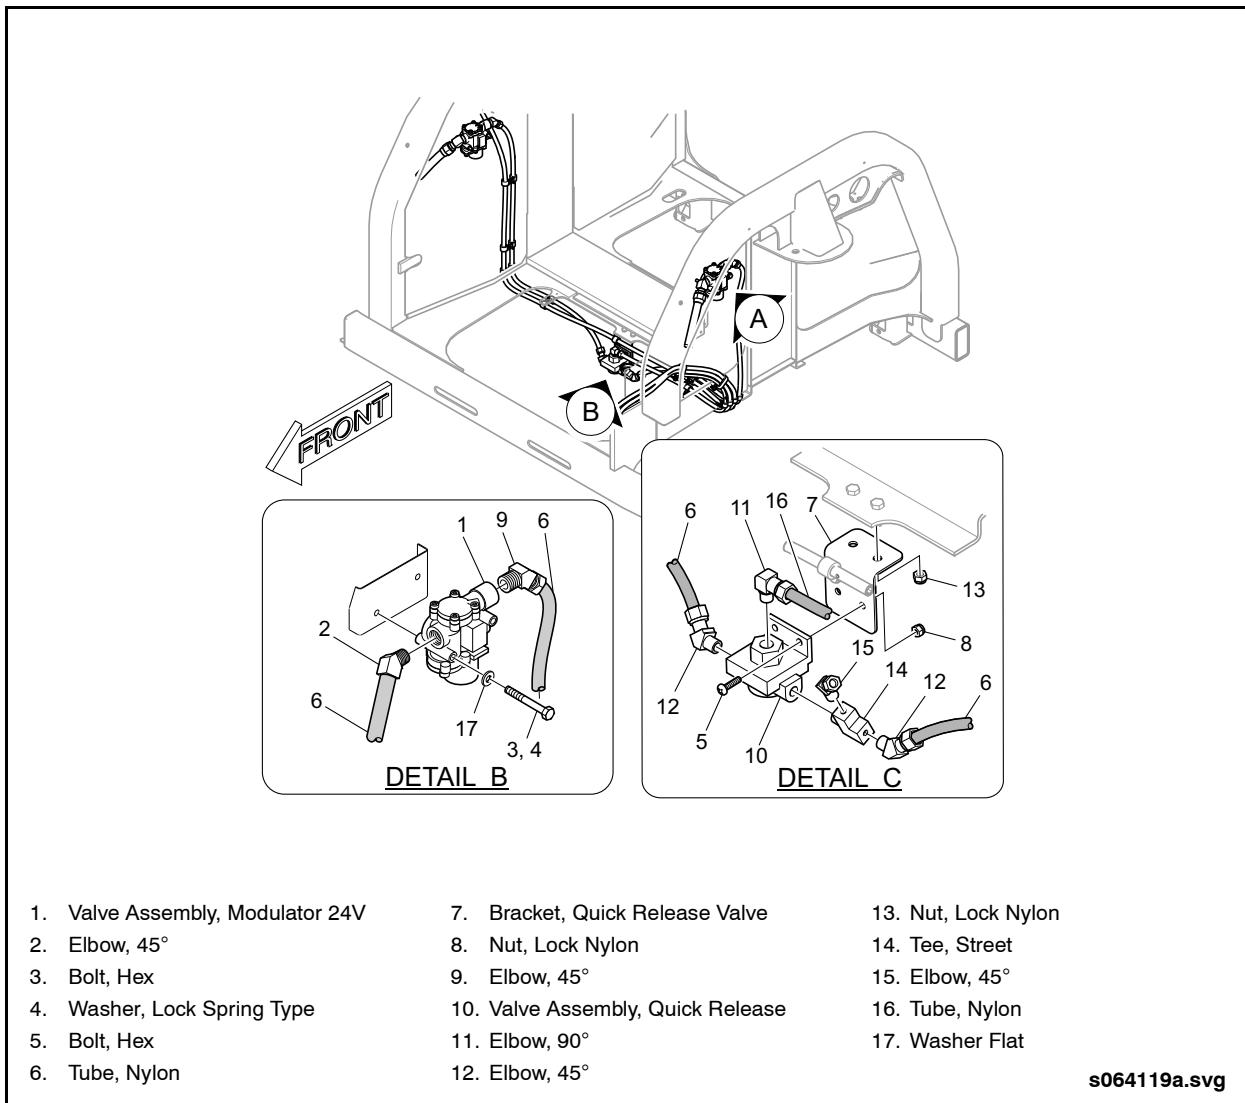

Fig. 1-77: Front Modulator Valve Removal & Installation
3. Disconnect the air lines from ports 1 and 2 of the ABS valve. See "Fig. 1-77: Front Modulator Valve Removal & Installation" on page 84.